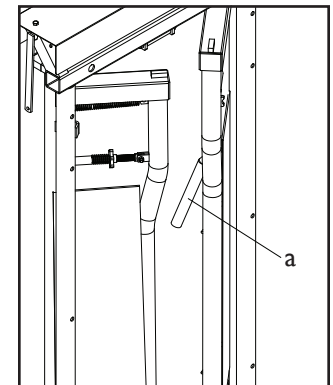

Figure 5: Loading handle
2. For slow or timid animals, the headgate features a handle (a) that can be mounted on the left or right side of the machine (Figure 5). If the animal puts its head through the headgate but does not go far enough for the doors to close, the handle can be pulled to manually close and lock the doors in place.